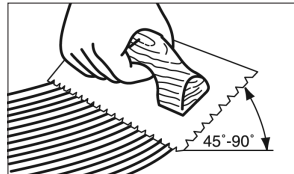

Figure 11
- Hold trowel at a minimum 45° angle (Figure 11) firmly against the subfloor to obtain proper spread rate per gallon.